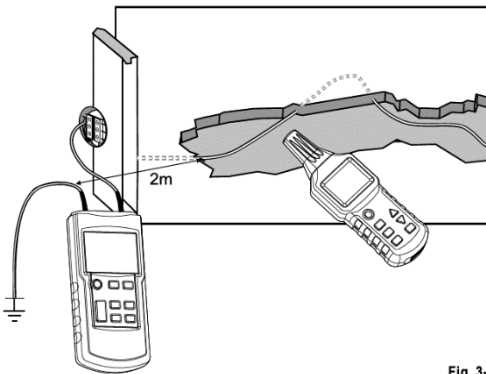

Fig. 3-1-9
- Connect the transmitter as shown in Fig. 3-1-9.